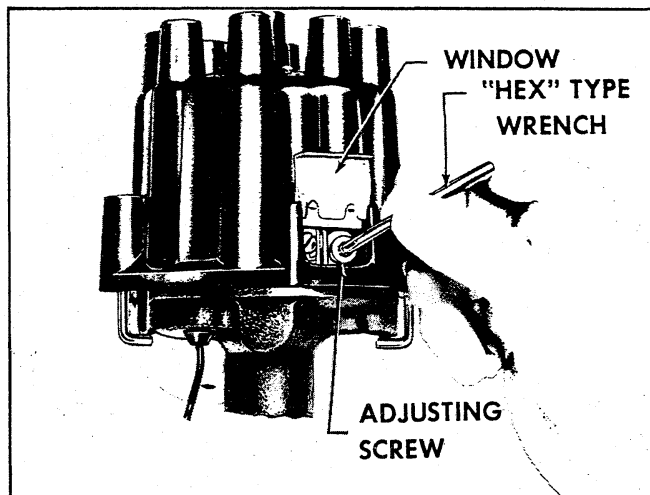

Fig. 11i—Adjusting Dwell Angle
With the engine running at idle and operating temperatures normalized, the dwell is adjusted by first raising the window provided in the cap and inserting a "Hex" type wrench into the adjusting screw head (fig. 11i).
- b. Turn the adjusting screw (fig. 11i) to set the dwell angle to 30 degrees.
- c. Turn the adjusting screw clockwise (fig. 11i) until the lamp lights, then give the wrench 1/2 turn in the opposite direction (counter-clockwise) to obtain the proper dwell angle.